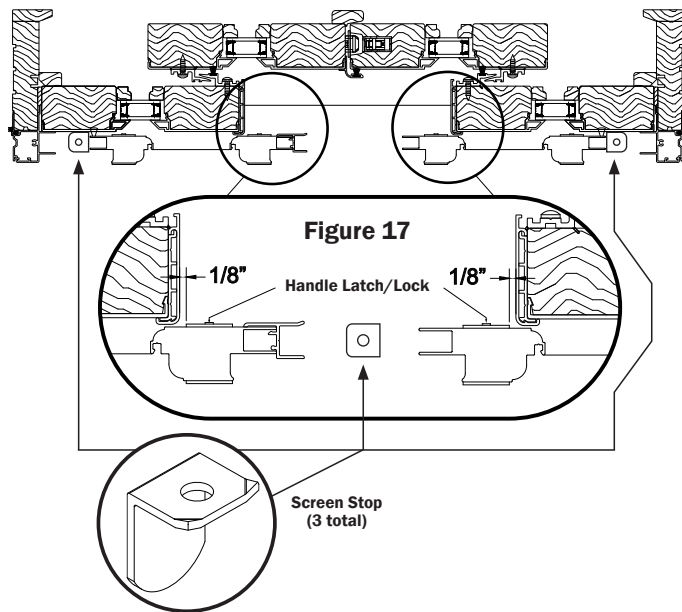

Figure 17
24. Attach screen stop in the head screen channel at the center of the door using the provided #8 x 3/4" phillips pan head self-drilling screw (Figure 17).
25. Slide screen door to its open position, with the screen handle about 1/8" away from the stationary panel. Next, install the screen stop into the head screen track tightly to the back of the screen - opposite side of the handle (Figure 17). Use the provided #8 x 3/4" phillips pan head self-drilling screw to install.